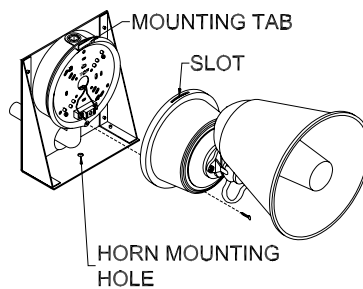

Figure 15 Horn Assembly and Mounting
17. Fasten the horn assembly to the scoreboard using the mounting bolts from the scoreboard as seen in figure 15.